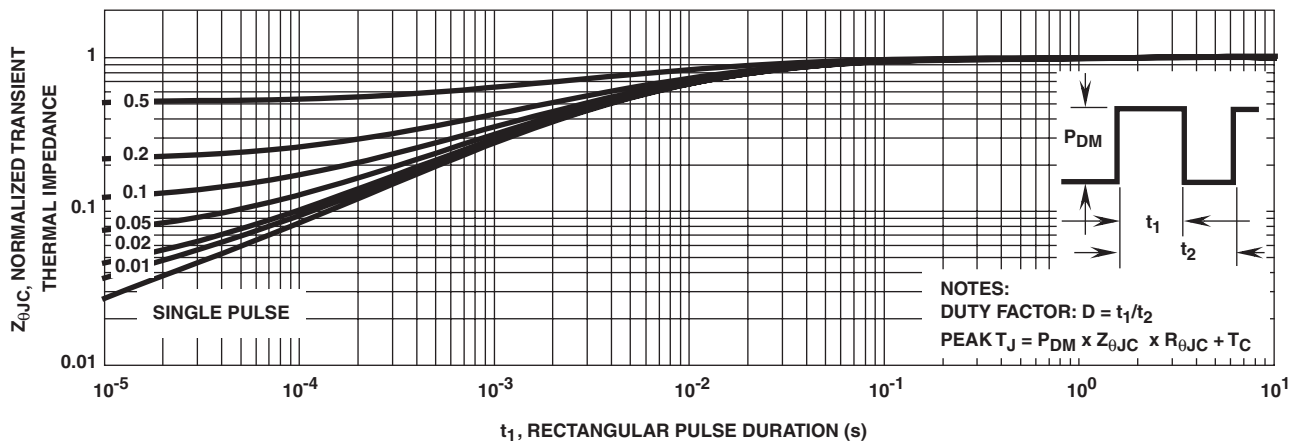
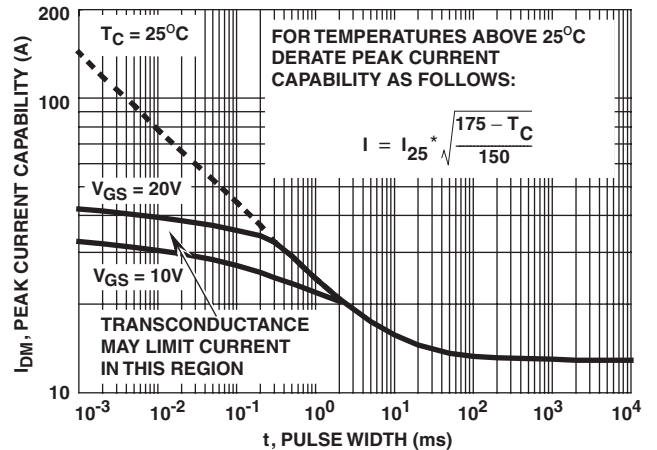

FIGURE 3. NORMALIZED MAXIMUM TRANSIENT THERMAL IMPEDANCE
FIGURE 5. PEAK CURRENT CAPABILITY
3. Repetitive Rating: Pulse Width limited by max junction temperature. See Transient Thermal Impedance Curve (Figure 3) and Peak Current Capability Curve (Figure 5).